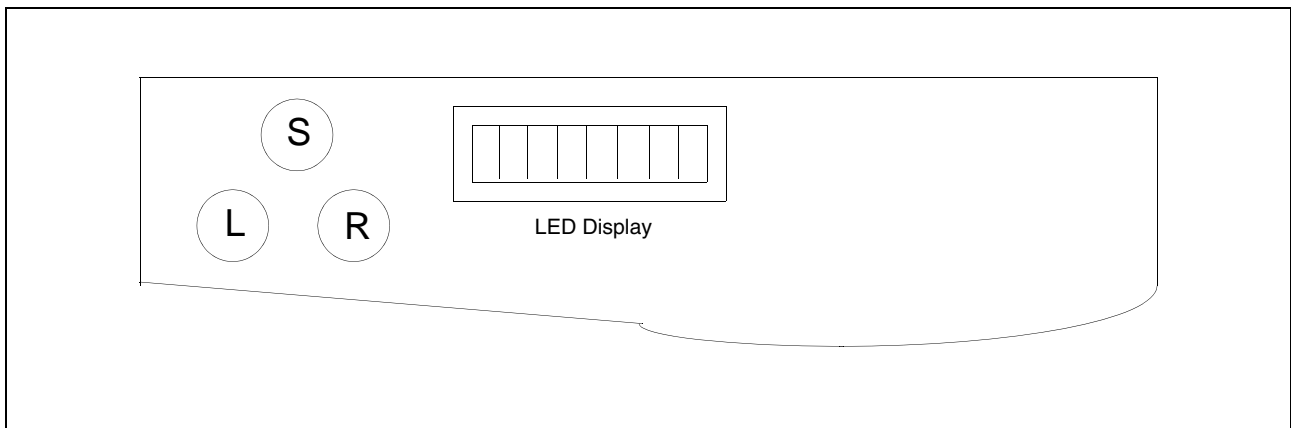

Fig 5.1 Set-up Menu
1 The set-up menu is accessed via a simple 3-button interface (Fig 5.1): (S) "Select", (L) "Left" and (R) "Right". The data is displayed on an 8-character LED display. The buttons are accessed by inserting a small non-conducting rod through the three holes in the casing next to the display.